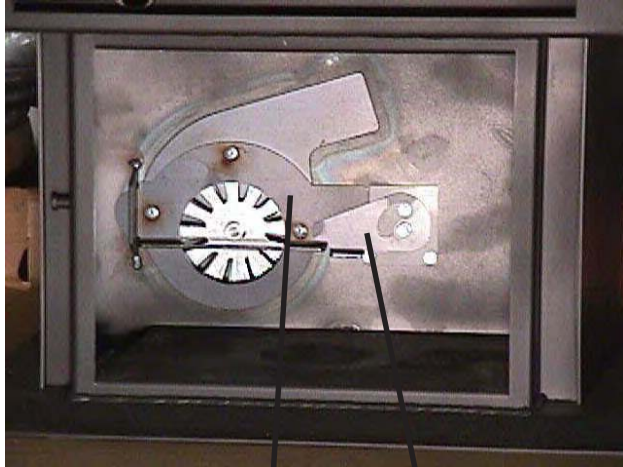
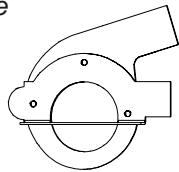

Fig. 24
**Fig. 27**
3. Remove combustion blower cover by turning the latch vertical as shown in Fig.26 and sliding the cover out of the slot on the left Fig.27. This will expose the combustion blower wheel and flue outlet, Fig.24.